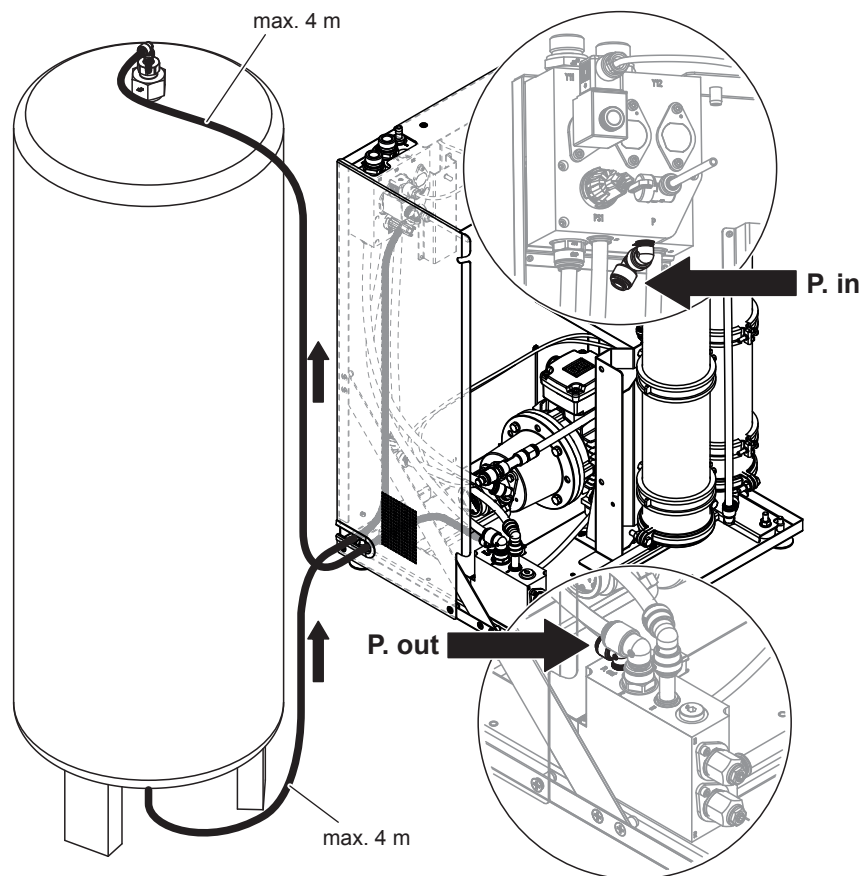
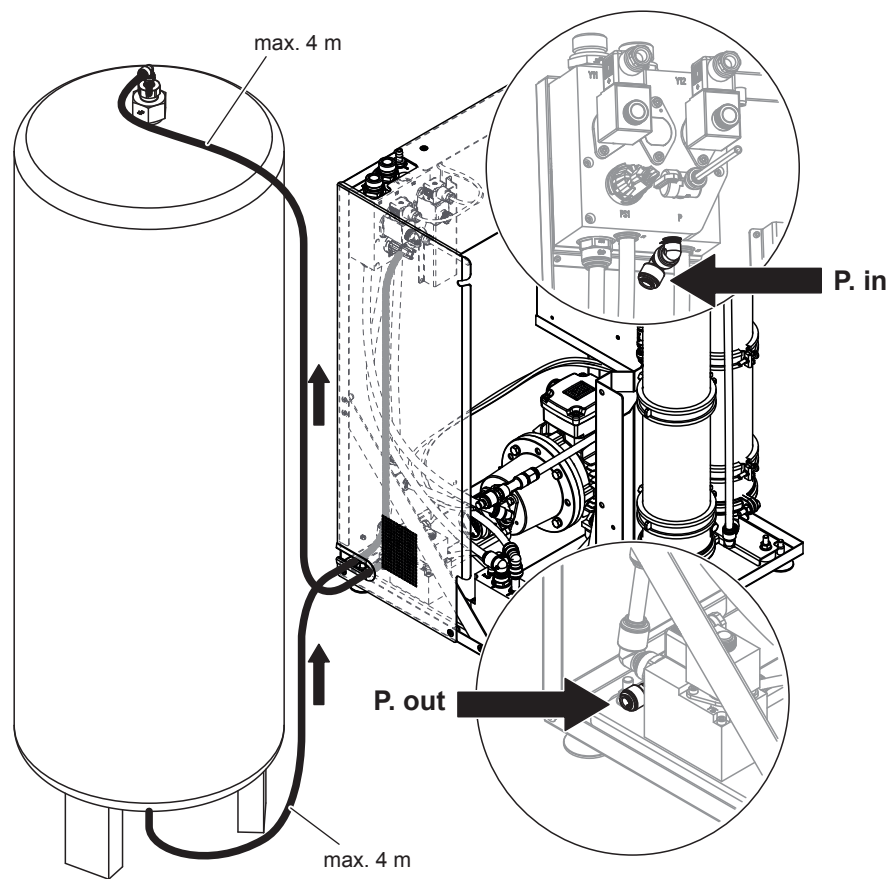
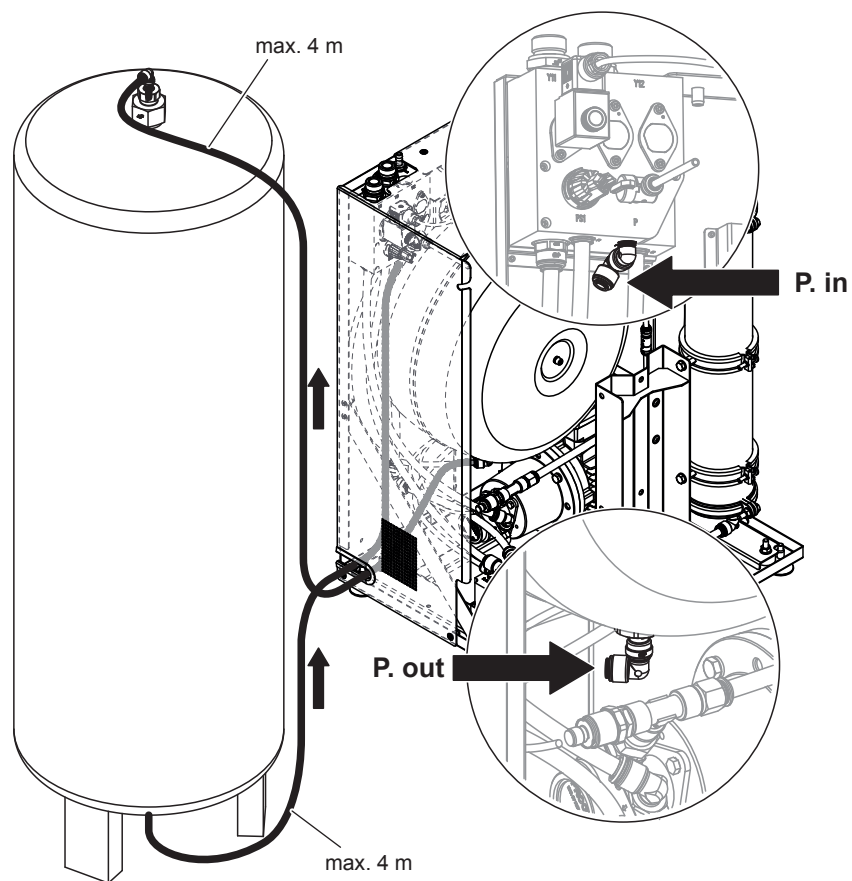
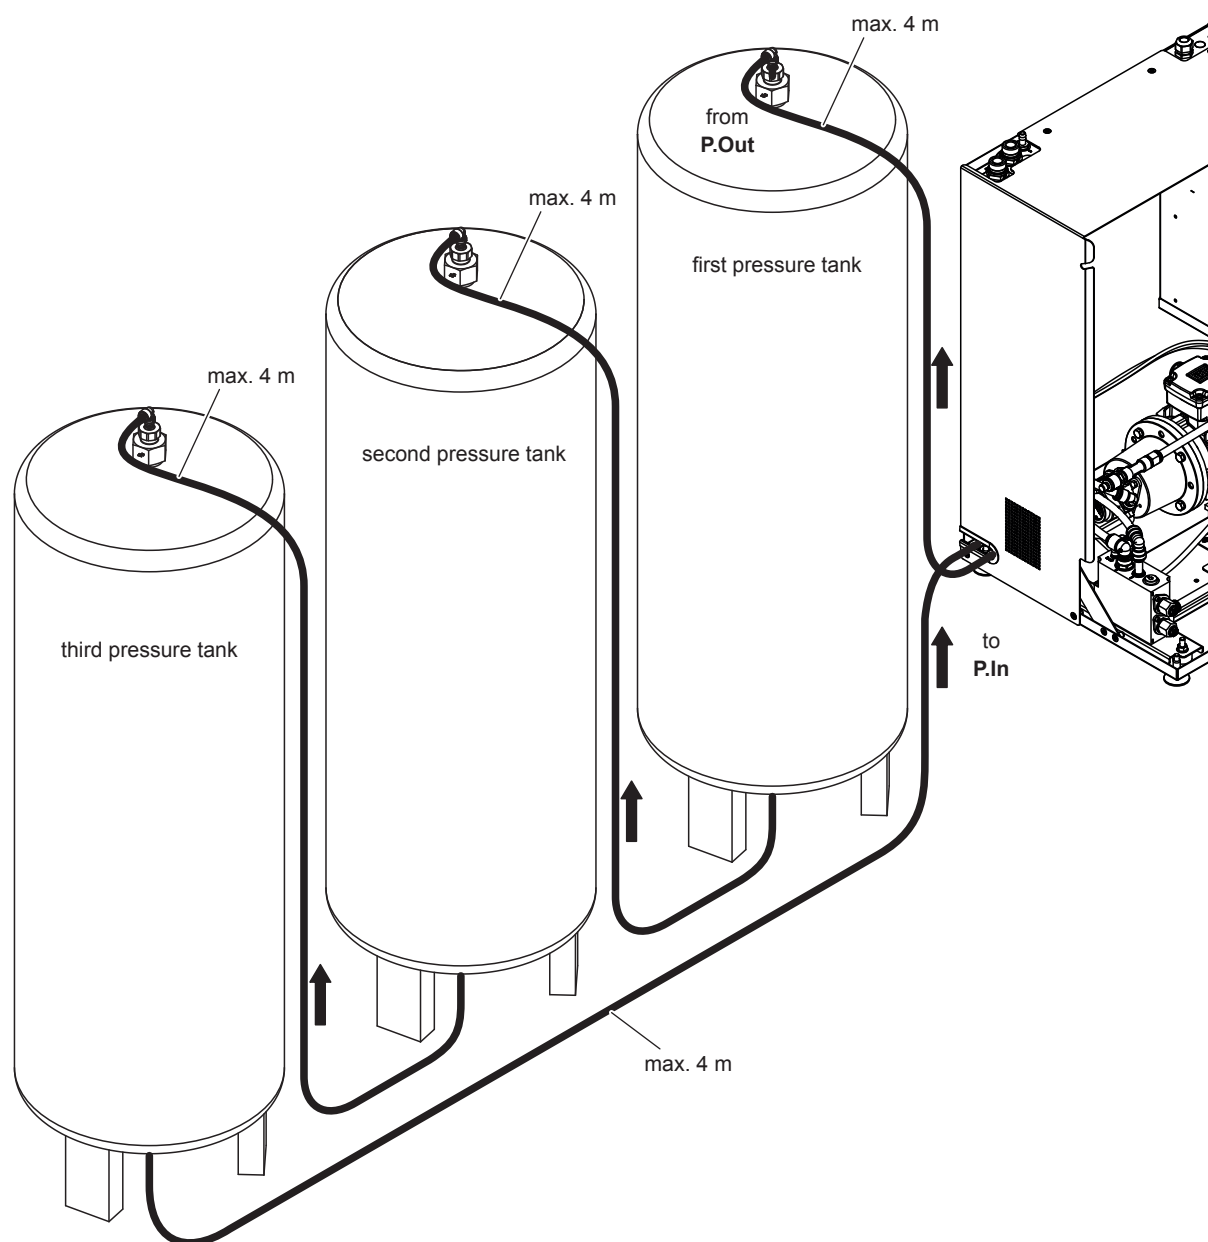

Fig. 11: Connecting the external pressure tank to the Condair RO-E 200/300 pure water system (figure shows RO-E 200)
Fig. 12: Connecting the external pressure tank to the Condair RO-E+ 200/300 pure water system (figure shows RO-E+ 200)
Fig. 13: Connecting the optional external pressure tank to the Condair RO-E(+) 40/100 pure water system with internal pressure tank (figure shows RO-E 100)
Fig. 14: Connecting several external pressure tanks to the Condair RO-E(+) pure water system
Important: The maximum hose lengths shown in Fig. 11 to Fig. 14 must not be exceeded. Make sure the connection hoses are not routed higher than the connection on top of the pressure tank(s).
4. Connect the supplied black JG hose $\varnothing 8$ mm to the angle connector of the "P. out" connection of the corresponding logic block (see Fig. 11 or Fig. 12) or of the internal pressure tank (see Fig. 13), and lead the hose to the **upper** connection on the (first) external pressure tank, cut the hose to length and connect it to the angle connector of the pressure tank.
Up to three external pressure tanks can be connected to a RO-E(+) pure water systems according to the schematic diagram shown in Fig. 14.